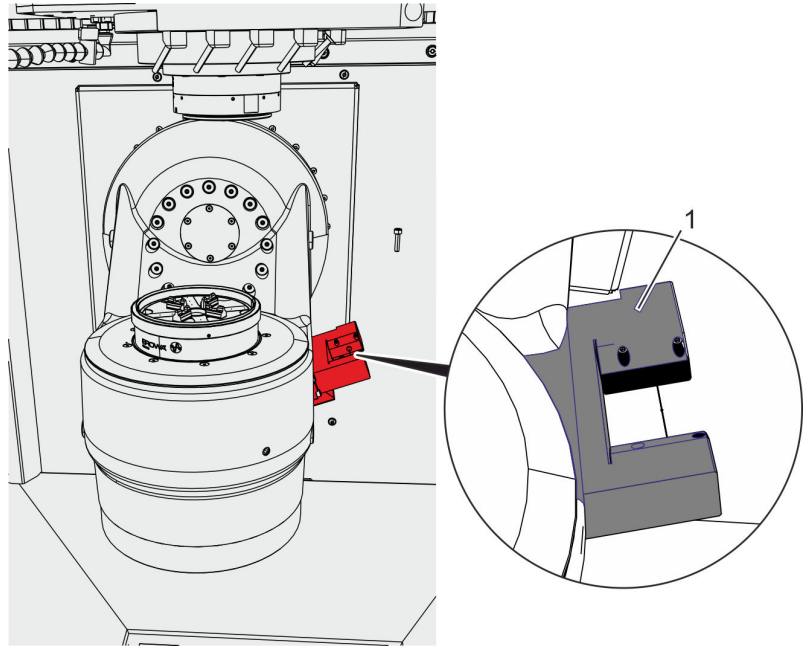

Fig. 89: Laser tool measuring
- 11.▶ Clean the laser measuring device (Fig. 89/1) with a cloth.